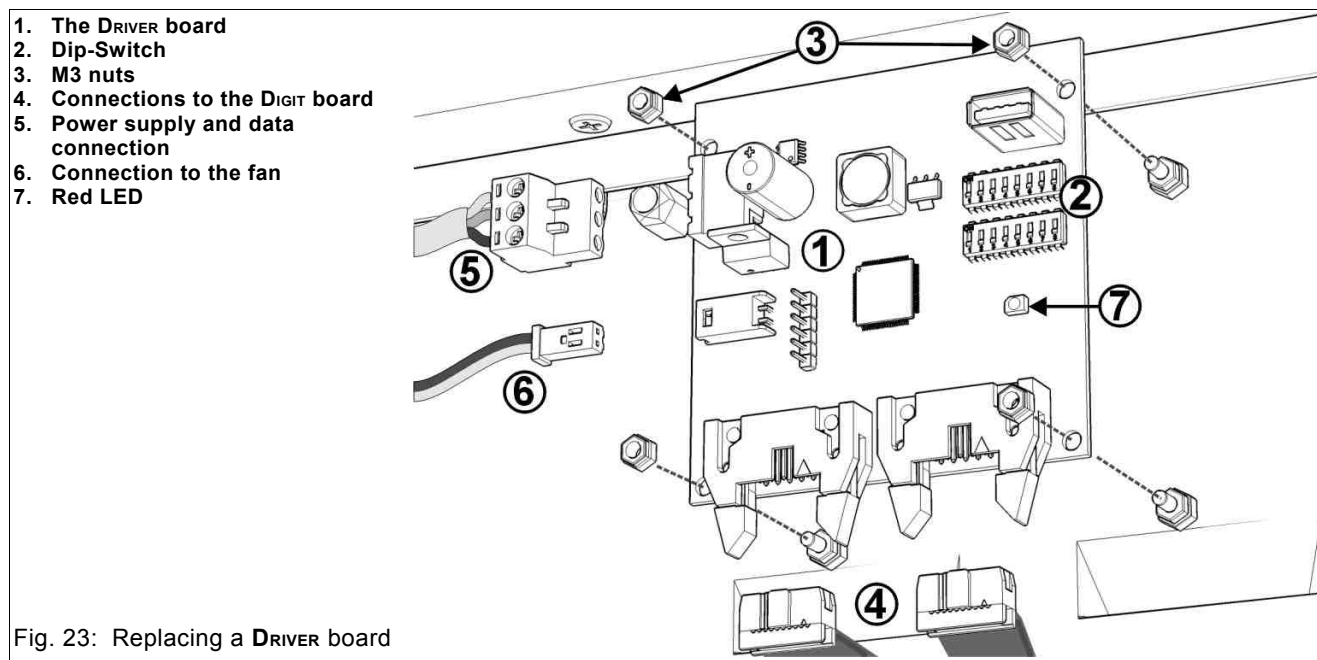

Fig. 23: Replacing a **DRIVER** board
If the red LED of the **DRIVER** board is illuminated or flashing (see Fig. 23):
3. Remove all connectors from the **DRIVER** board, making note of their position, then unscrew the nuts (Fig. 23) and remove the **DRIVER** board from its place.